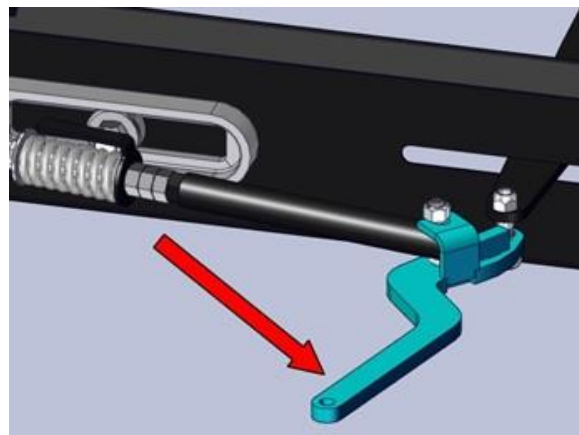

Figure 74
2. Make sure that the *quick release handle* is in the open position prior to installing the draper on the deck. Figure 74